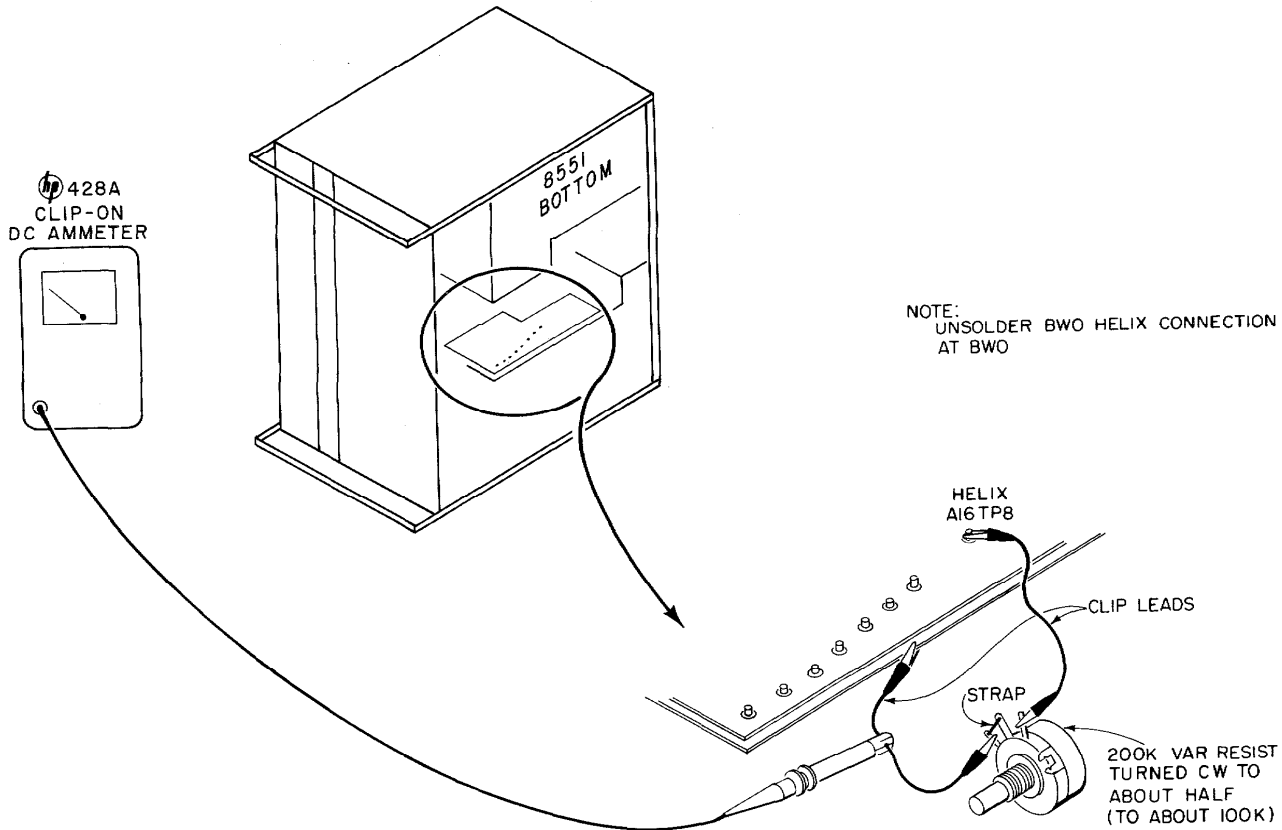

Figure 5-22. Setup for Checking Helix Overload Relay A16K4, 8551B
5-166. SETUP. See Figure 5-22.
- c. Strap one end of the 200K variable resistor to the center terminal, as indicated in Figure 5-22. Set shaft clockwise to about 100K; check with ohmmeter.
- a. Locate relay A16K1. (See Figure 5-22.)